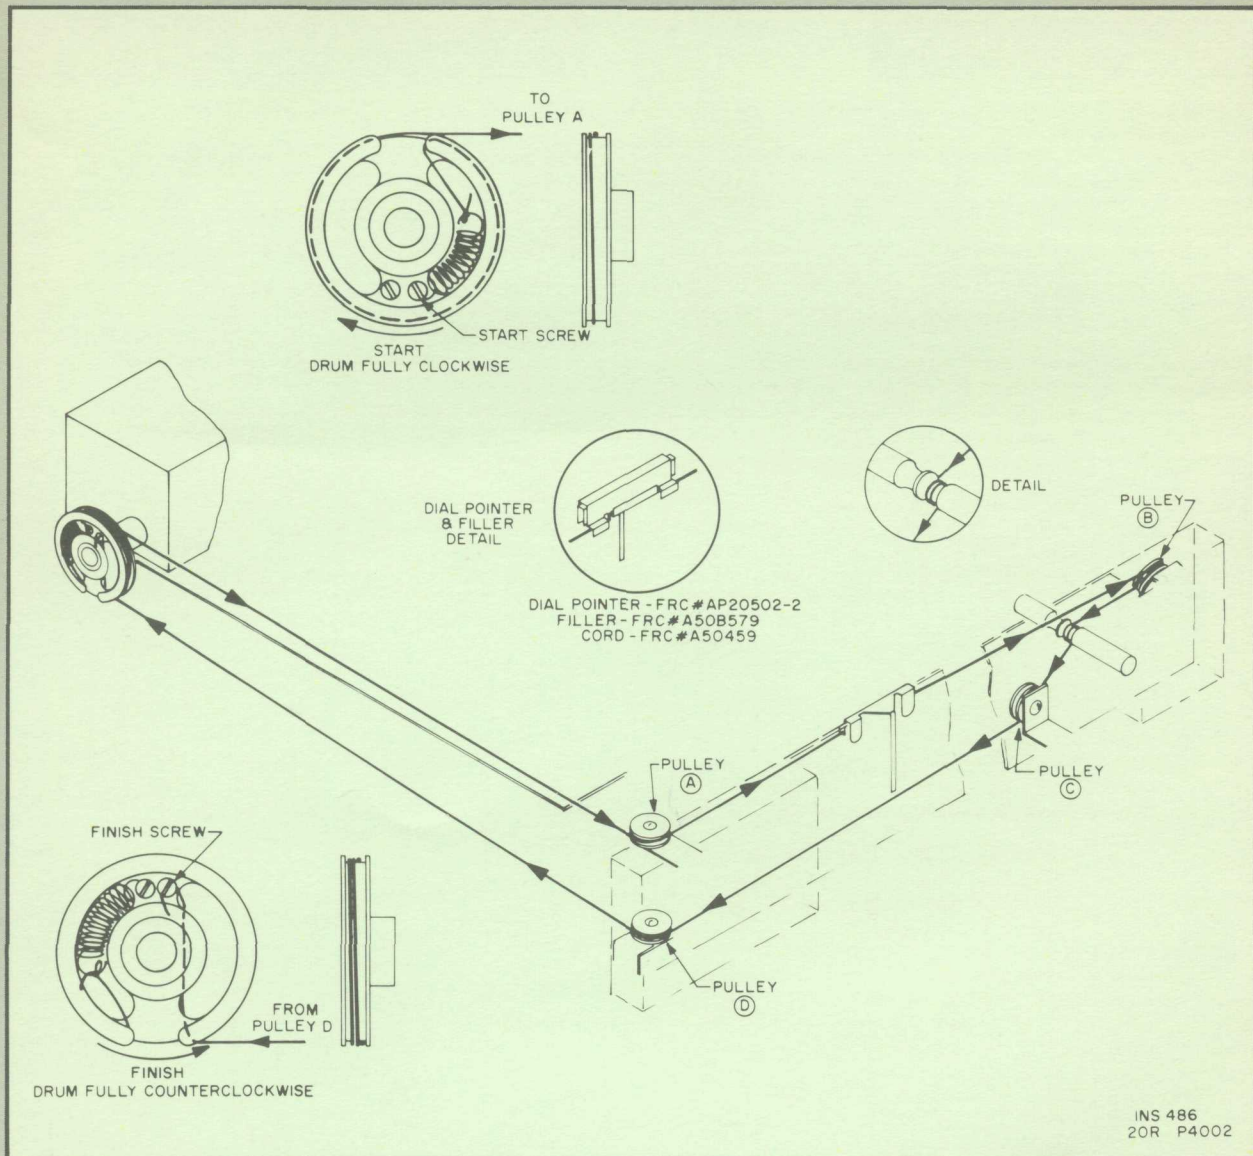

Figure 1.
- (1) Remove the two dial lamp holders from their mounting clips.
- (2) Remove the dial pointer from the dial cord.
- (3) Rotate the tuning capacitor drive-drum fully CW. Loosen the START screw. See detail, Figure 1.
- (4) Tie end of dial cord to one end of spring. Fasten spring to START screw and tighten screw.
- (5) Run the dial cord through the slot in the rim of the drive-drum, pull cord taut and make one turn CW around drum.
- (6) Guide dial cord around pulley "A", across the front of the chassis and over the top of pulley "B".
- (7) Pull dial cord taut and wrap 2 turns CW around the tuning shaft. See detail, Figure 1.
- (8) Guide the dial cord under pulley "C" and around pulley "D".
- (9) Rotate the drive-drum fully CCW, allowing the cord to wind onto the drive-drum. Dial cord must be kept taut during this procedure.
- (10) Guide the cord under the drive-drum and under the FINISH screw. See detail, Figure 1. Draw cord taut; tie cord around the screw and tighten the screw.
- (11) Turn the tuning shaft fully CW and CCW to distribute the tensioning along the dial cord.
- (12) Install dial lamp holders.
- (13) Place the dial cord over and under the tabs on the rear of the dial pointer (see detail), and place the pointer on the top of the dial glass panel.
- (14) Turn the tuning shaft fully CCW. Slide dial pointer to zero (0) calibration mark on the logging scale while holding tuning shaft fully CCW. Cement dial pointer to dial cord to prevent slippage. Allow cement to thoroughly dry.